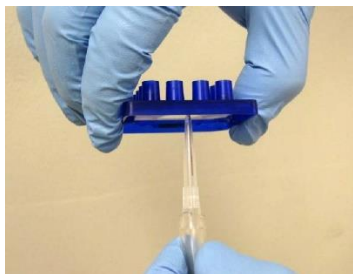

Figure 16. Removing an air bubble or clog by suctioning the sipper with a vacuum
- 18 If air bubbles are not dislodged after a reprime: Fill all active wells with 100 μ L of FFA Chip Storage Buffer, then suction the sipper with a vacuum line as shown in Figure 16 until droplets of fluid flow out from the sipper. When suctioning the sipper, be careful not to bend or break the sipper. To facilitate this, cut the end of the pipette tip attached to the vacuum line to widen the mouth.